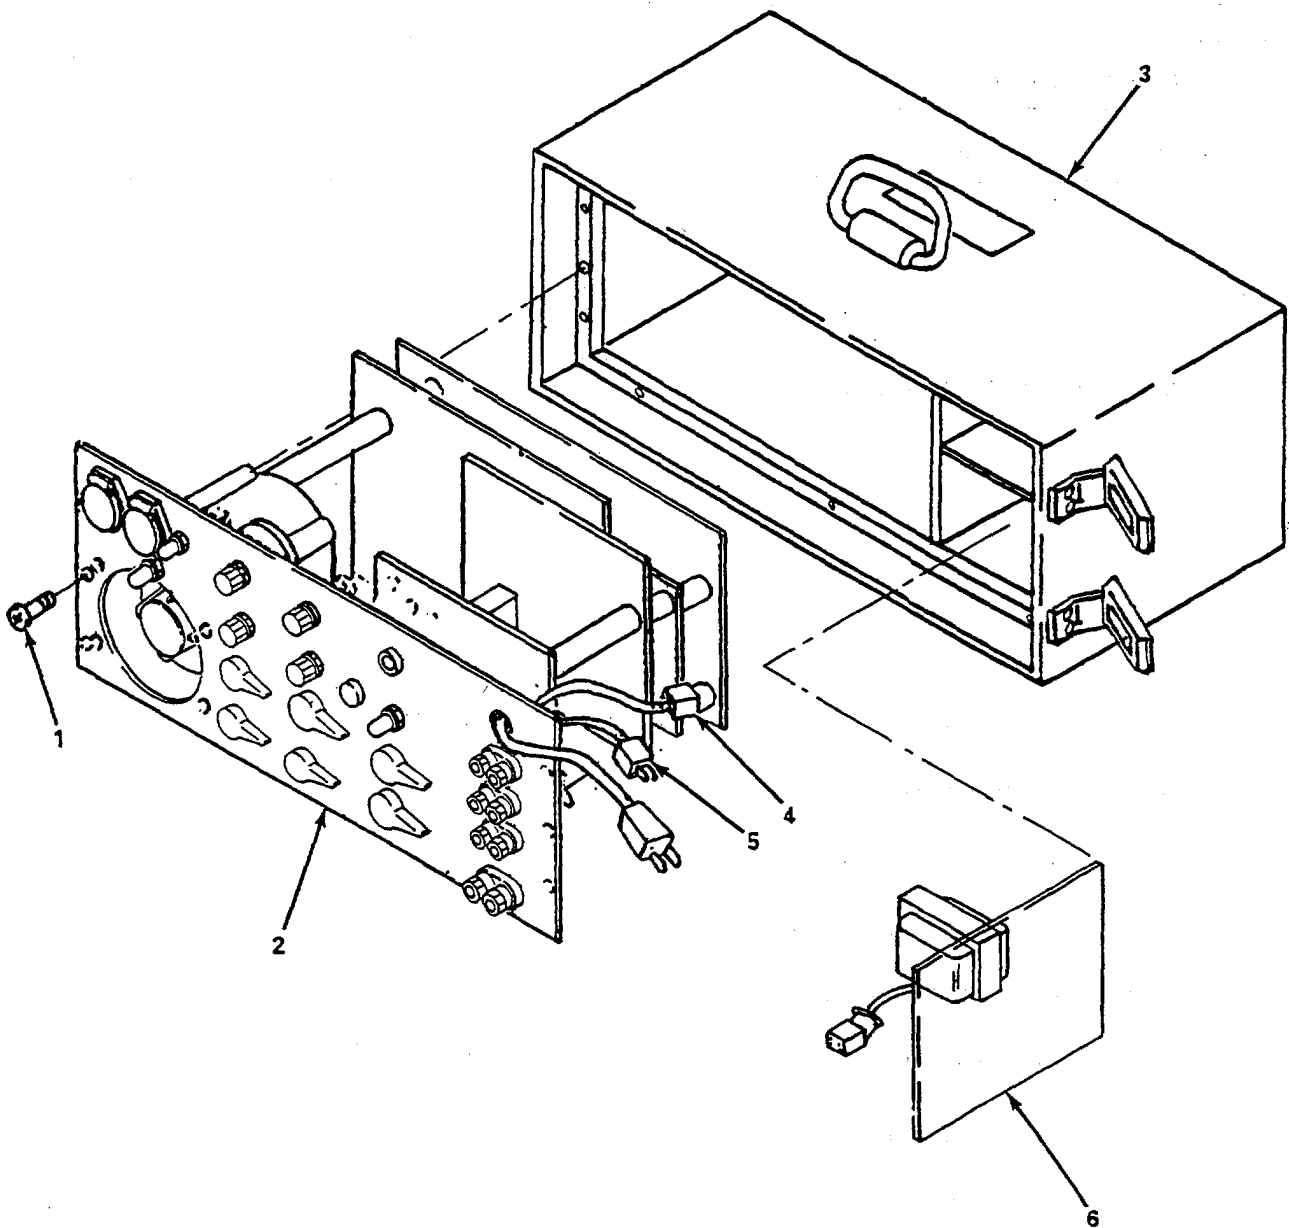

Figure 5-13. Transformer/Heat Sink Assembly, Replace.
- (1) Transformer/heat sink assembly.(figure 5-13)
- (a) Remove 10 screws (1) and front panel (2) from communications box (3).
- (b) Remove foam padding from connectors (4) and (5).
- (c) Remove foam padding from around transformer/heat sink assembly (6).
- (d) Remove transformer/heat sink assembly (6).
- (e) Slide transformer/heat sink assembly (6) back into cabinet.
- (f) Pack foam material around transformer/heat sink assembly (6).
- (g) Connect and pack foam around connectors (4) and (5).
- (h) Install front panel (2) with 10 screws (1).